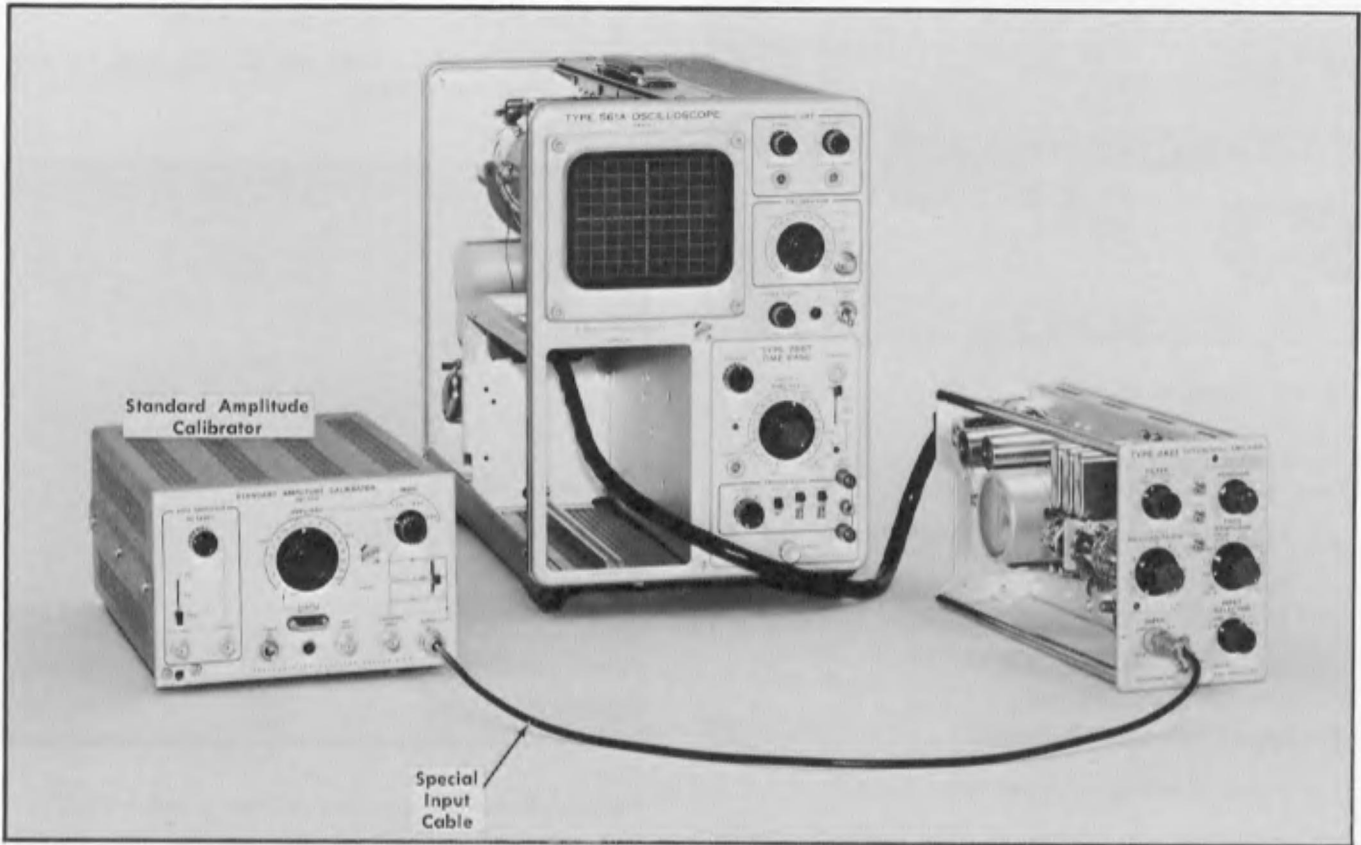

Fig. 6-11. Initial test equipment setup for steps 8 and 9.
8. Adjust Gain (Preset) ❶
a. Test equipment setup is shown in Fig. 6-11.